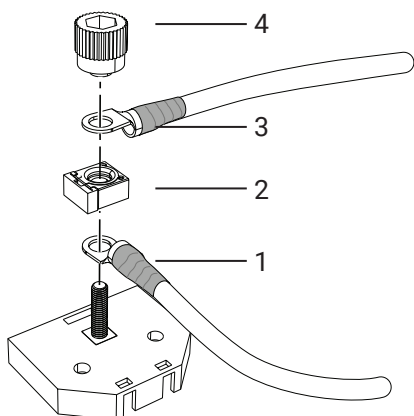
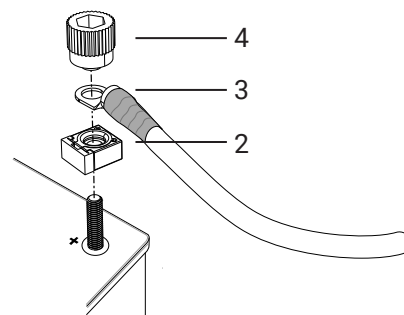

Figure 59. Connection to the fuse box
Figure 60. Connection to the battery's positive terminal
2. If applicable, ensure that the cab switch (CS) is in the "Off" position.
3. When using a fuse box, connect the cable (1) to the battery's positive terminal and to the fuse box and place the fuse (2) above, see Figure 59.
4. When connecting directly to the positive battery terminal, place the fuse (2) on the positive terminal, see Figure 59.
5. Connect the main power cable (3) to the fuse box / positive terminal, see Figure 59 - Figure 60.
6. Screw tight the cable connections and fuse with the knob (4). Install the cables at 90° or 180° from each other. Install the fuse at right angles to the cables; see Figure 59 - Figure 60.